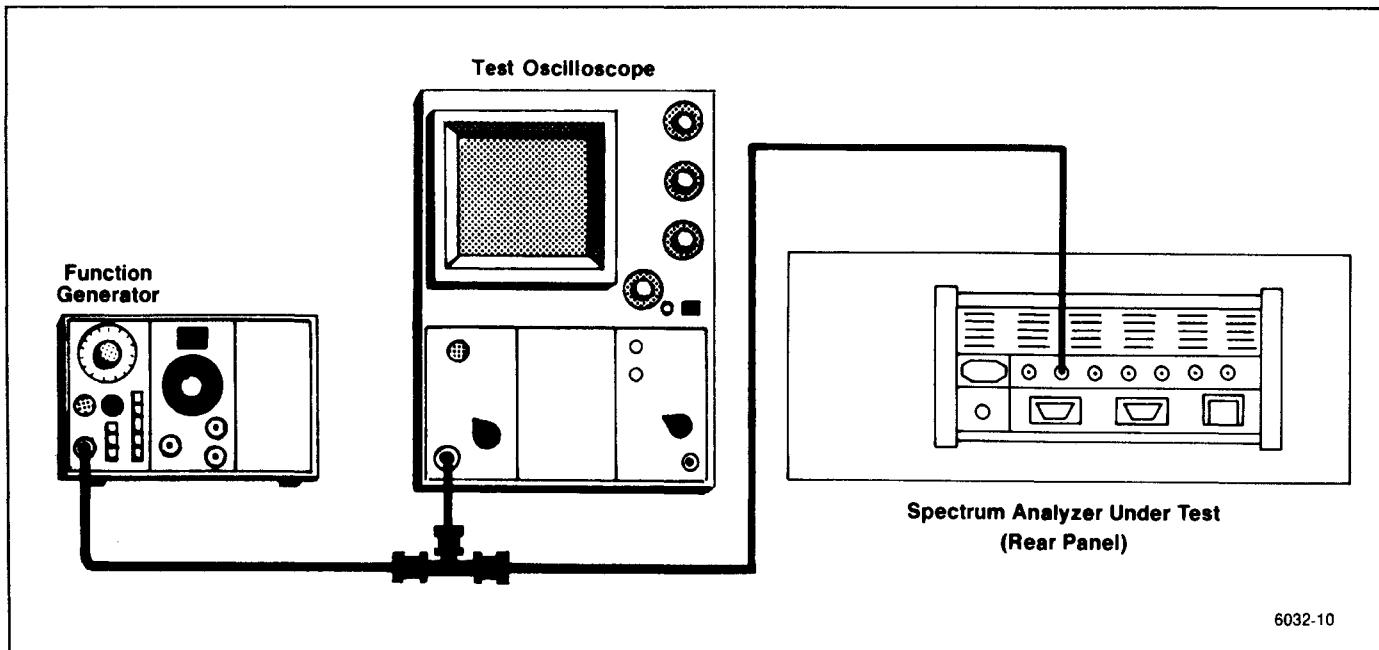

Figure 4-20. Test equipment setup for checking external triggering and horizontal input characteristics.
- h. Reconnect the test equipment as shown in Figure 4-20.
- a. Connect the test equipment as shown in Figure 4-20. Set the Spectrum Analyzer controls as follows: